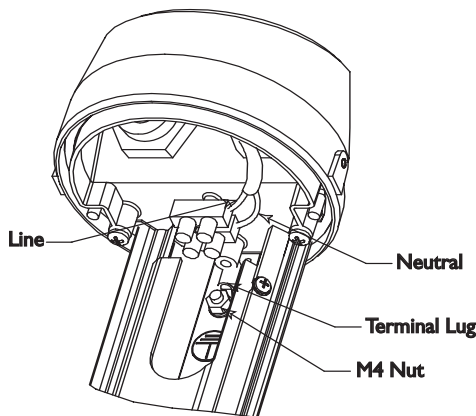

Figure 6: Power Connections - Nonfan units
5. A screw/terminal lug is provided for securing a safety ground. To attach the safety grounding wire (green 115 volt, green/yellow 230 volt), first unscrew the terminal lug and strip and crimp the grounding wire into the lug. Attach the terminal lug to the bracket using the M4 x 10 screw provided (H-1 & H-2 models use an M4 Nut to screw the lug to the base). See Figure 6.